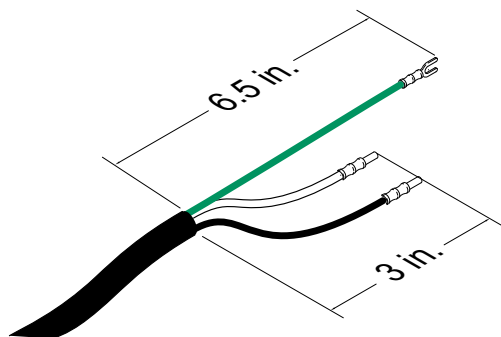

Fig. 6: Power Cord
- Add ferrules as necessary. See Fig. 6.